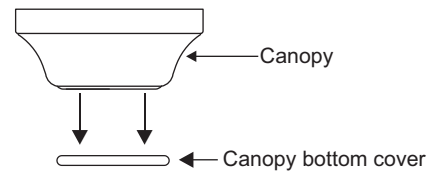

Figure 8
1. Remove the decorative canopy bottom cover from the canopy by depressing the three studs. (Fig. 8)